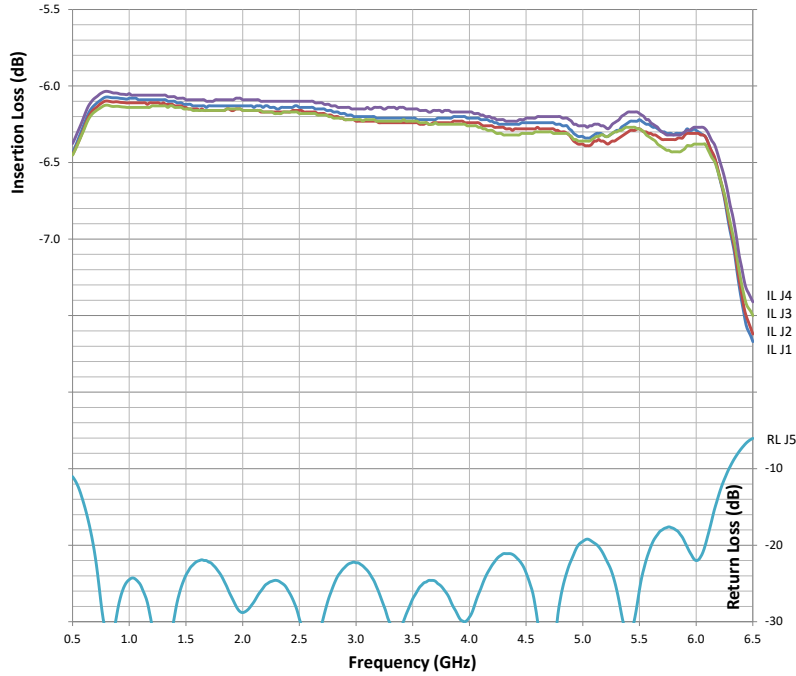

Figure 4-5. Typical Four-Way Splitter Insertion Loss
5. A typical Four-Way Splitter Insertion Loss is shown in Figure 4-5. The unused port must be terminated when checking the insertion loss.